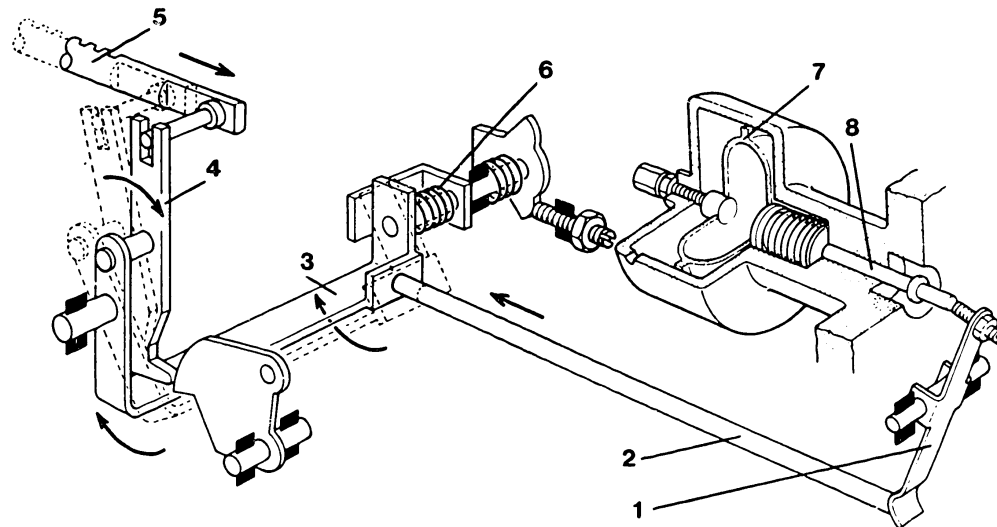

Fig. 55 Operation of "inverted-type" aneroid compensator
As the atmospheric pressure continues to decrease, the expansion force of the bellows becomes greater than the force of the aneroid compensator spring and the cancel spring, and therefore the bellows again starts to expand. The movement of pushrod (1) is transmitted through the inversion lever to pushrod (2). Pushrod (2) pushes the plate of the U-shaped lever against the force of the aneroid compensator spring and the cancel spring and moves the U-shaped lever in the direction of the arrow (see Fig. 55).